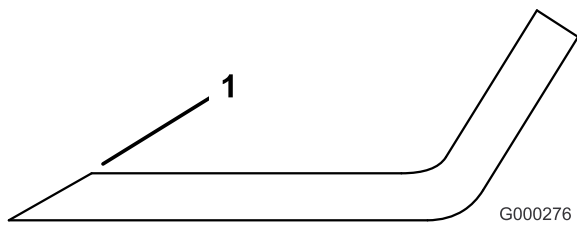

Figure 80
4. Examine the cutting edges of all of the blades. Sharpen the cutting edges if they are dull or nicked. Sharpen only the top of the cutting edge and maintain the original cutting angle (Figure 80). The blade remains balanced if the same amount of metal is removed from both cutting edges.